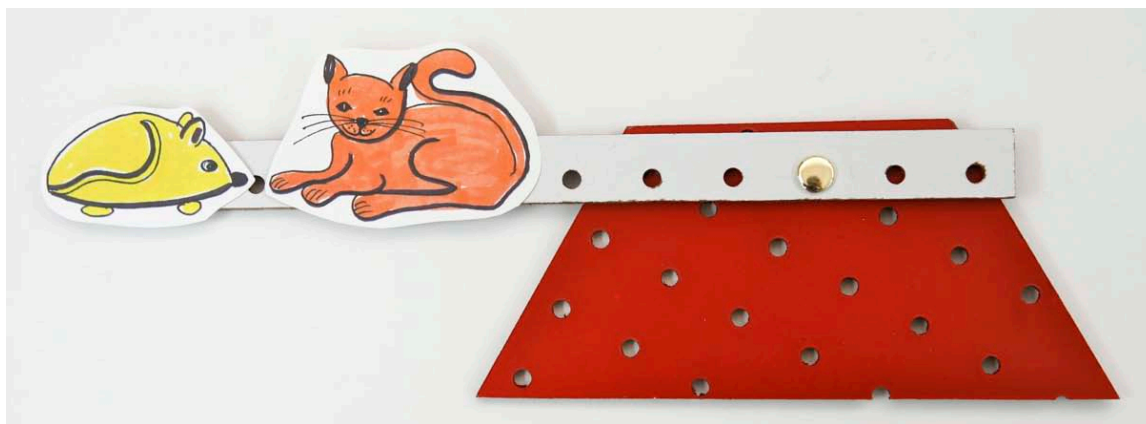

Figure 1: See-saw that lets cat and mouse go in the same direction
1. **Demonstrate** the same-direction see-saw from the previous lesson. See Figure 1.
Distribute the see-saws students have already made that look like Figure 1.